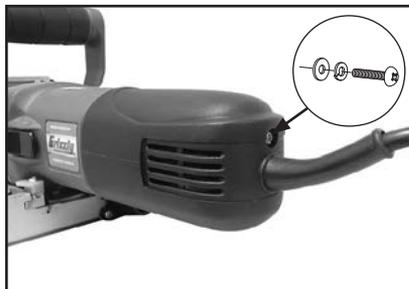

Figure 22. Location of back cap fasteners.
1. Remove M4-.7 x 16 Phillips head screw, 4mm lock washer, and 4mm flat washer from back cap of joiner body (see **Figure 22**), and slide back cap off of motor housing.